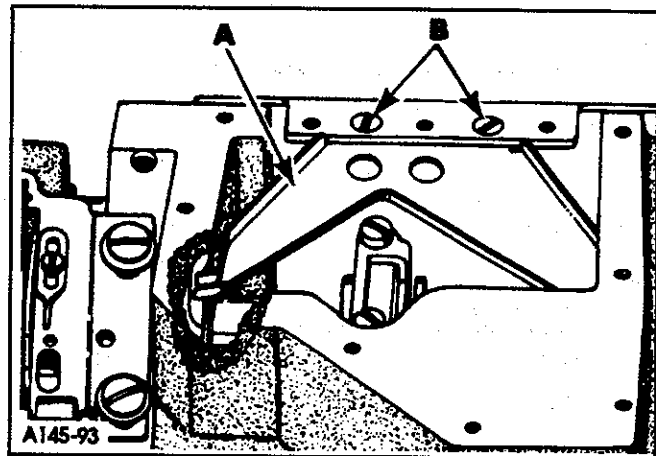

FIG. 29
The oil drip plate (A, Fig. 29) located in the oil reservoir should be positioned with its tip in the recessed cut out in the bed casting, as far to the left as possible without touching. It has elongated mounting holes and can be adjusted by loosening screws (B) in top of the oil reservoir back cover to position as required, retighten screws.